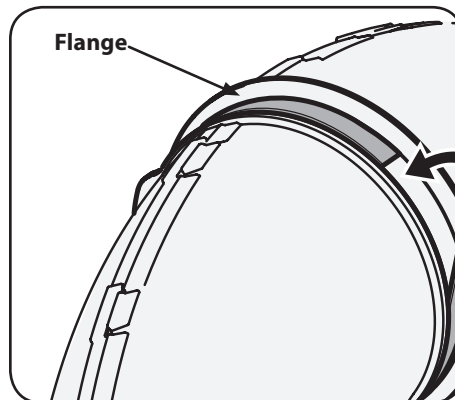

Figure 4-16
1. Peel the backing off of the self-adhesive foam strip (721-04388) that has been included within your Contents of Carton. Apply it to the upper chute, flush against the flange as shown in Figure 4-16.